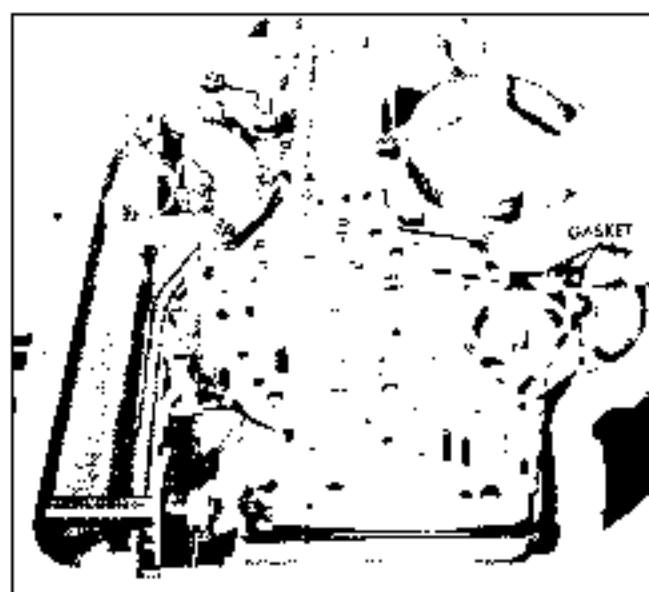

Fig. 7E-165 Installing Control Valve to Spacer Gasket
1. Install case to intake pipe O-ring seal on intake pipe and assemble new strainer to intake pipe (Fig. 7E-17).
2. Install strainer and intake pipe assembly, attaching strainer to control valve assembly with the retainer bolt (Fig. 7E-16).